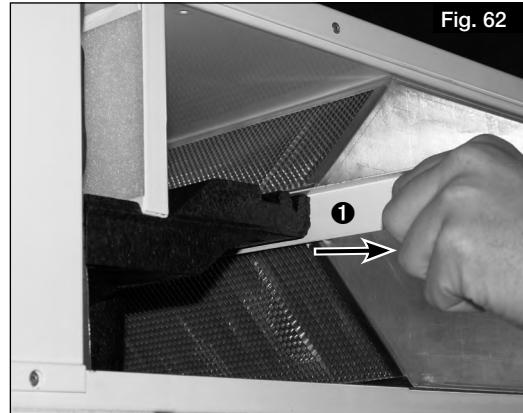

Fig. 62
2. Pull out sealing strip ① (see Fig. 62).